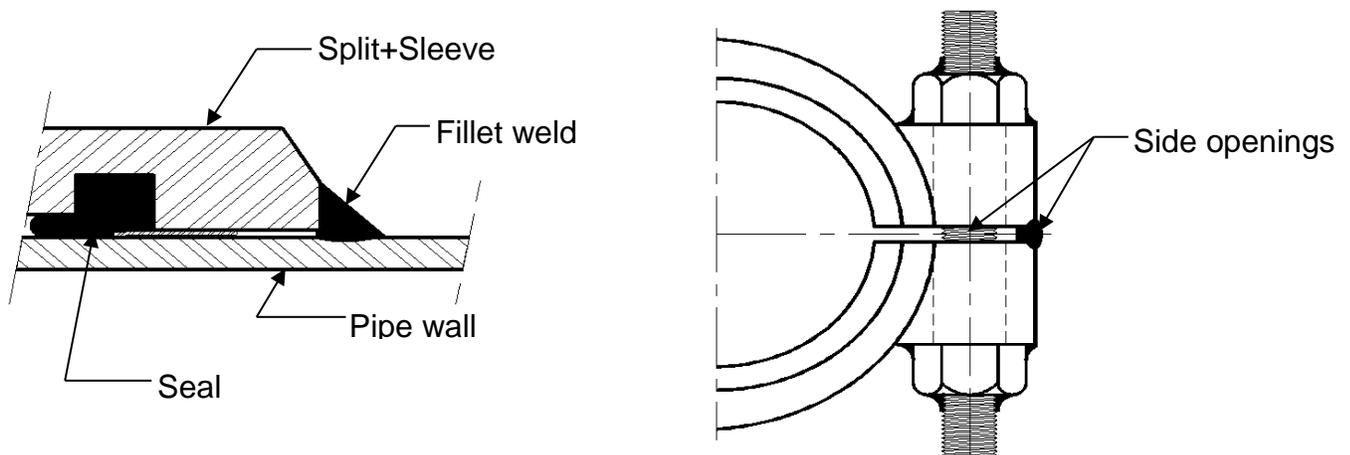

Figure 6
1. Fillet weld ends to pipe. (See Figure 6)